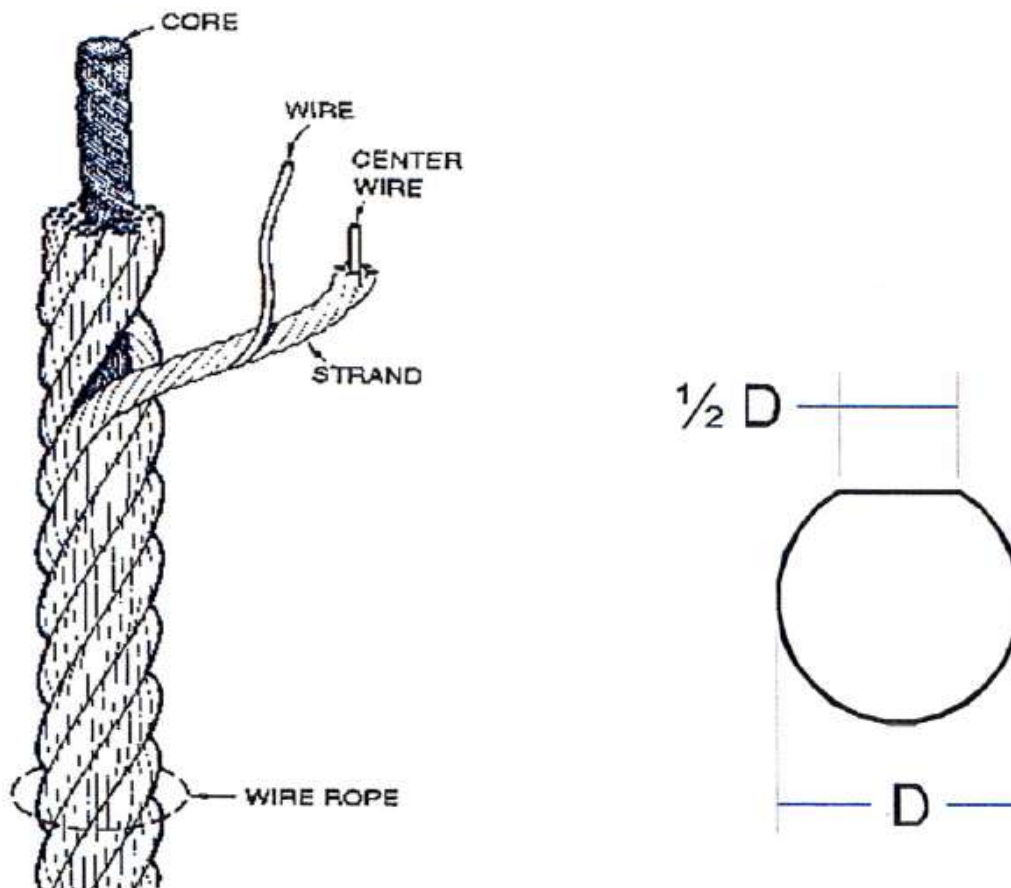

Figure 5.0 - Single Wire Inspection Criteria for the zip line wire ropes.
(Refer to Figure 5.0)
1. If any of the individual wires in a strand have a flat spot of more than $\frac{1}{2}$ the diameter of the smallest wire as shown in Figure 5.0.